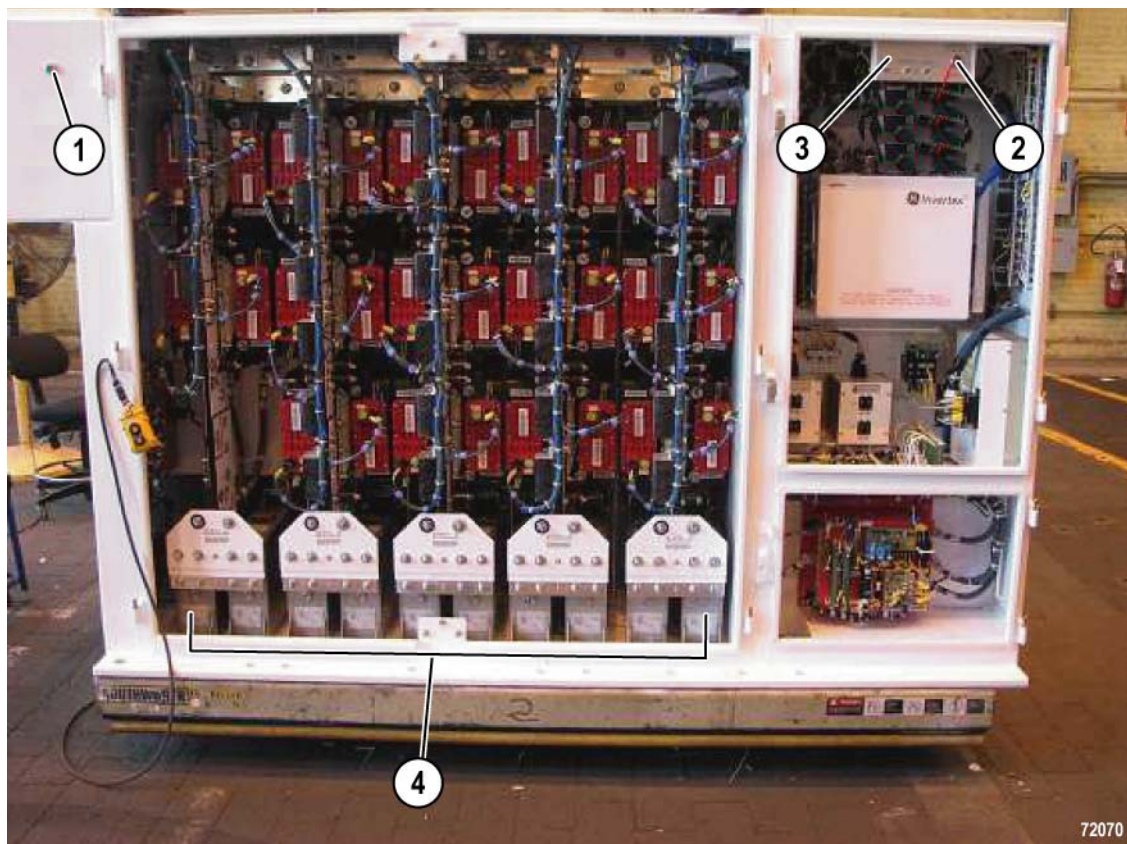

FIGURE 00-6. CAPACITOR CHARGE LIGHTS
2. Observe both capacitor charge lights (CCL1, CCL2). CCL1 is on the outside of the contactor box. CCL2 is on the switch panel inside the low voltage area. The lights will stay illuminated as long as the voltage on the DC link is greater than 50 VDC. Refer to Figure 00-6.